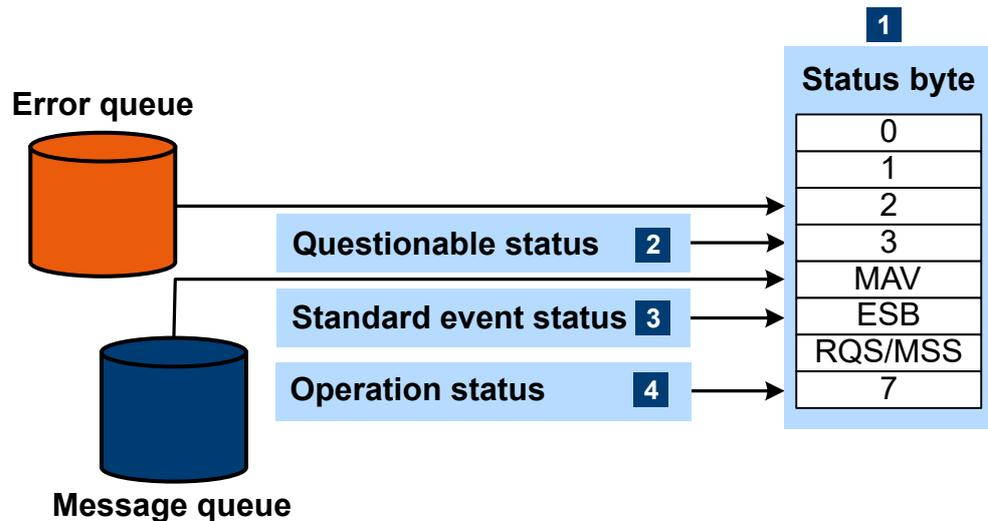

Figure 12-1: Status registers overview
Figure 12-1 shows the hierarchical structure of information in the status registers.
- See Figure 12-1.